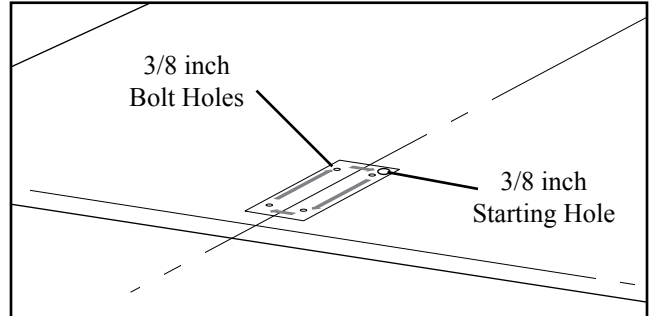

Figure 6 - Drilling to Measure Floor Thickness
2. Carefully and slowly drill a starting hole through the floor covering (typically linoleum or similar) and floor (typically plywood) and stop when you reach the subfloor (typically metal). Use a 3/8 inch diameter drill bit (Figure 6).